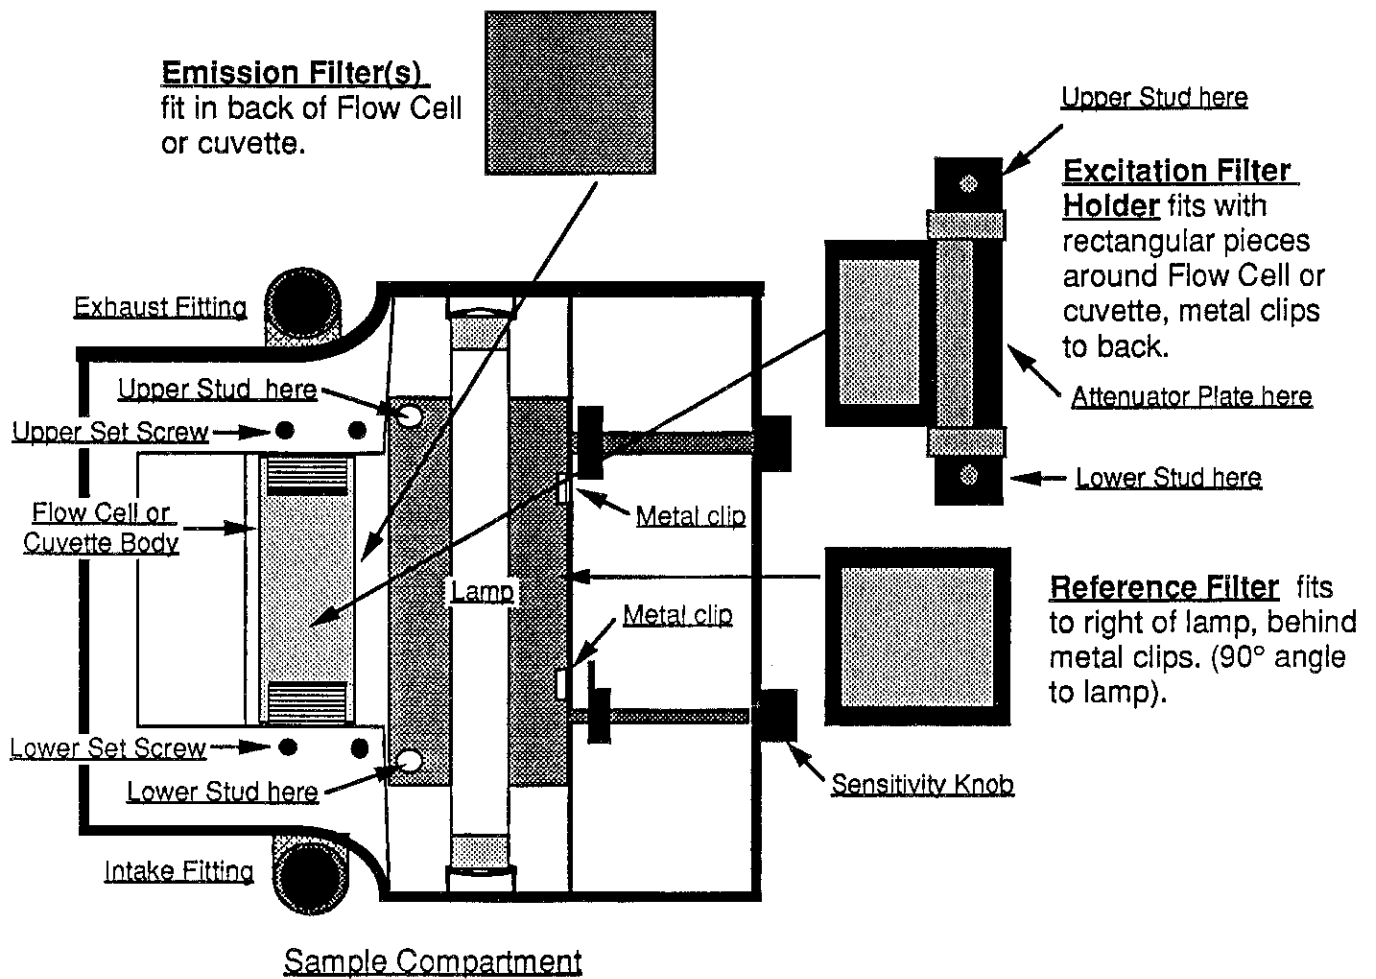

Figure A3. Filter Locations
There are three different types of filters on your fluorometer (all located inside the sample compartment): the reference filter, the excitation filter (mounted in a holder that fits around cuvette), and an emission filter(s). See Figure A3 for their locations. They are made of glass and will break if dropped, so handle them carefully. See Appendix 6.8 for a description of the filters needed for your application.
5. The emission filters mount directly behind the cuvette. See Figure A3. Remove any filters present, and install the new ones.
If an Attenuator Plate is necessary, install it at this time by placing it on top of the existing flat plate, before reinstalling the nuts. (See Section 3.3.3, Appendix 6.8, and Figure A3.)
9. Install the Excitation Filter Holder Assembly (fits around the cuvette) with the Upper and Lower Studs. See Figure A3.
Install it under the two spring clips, just to the right of the lamp. See Figure A3.